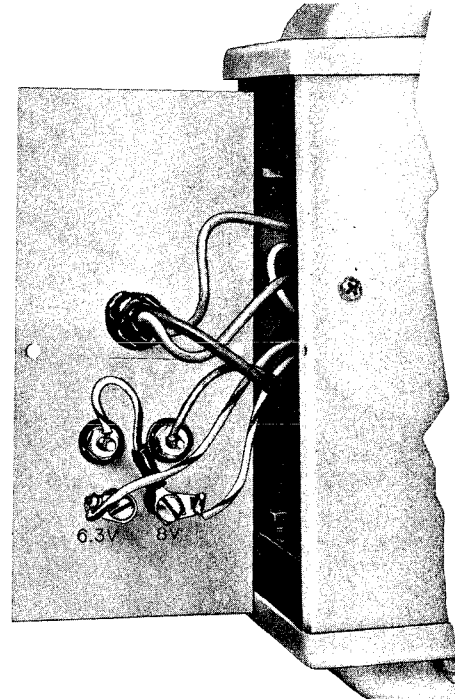

**Fig. 9—KS-16940, List 1 V.R. Transformer**
**9.01** The KS-16940, List 1 V.R. transformer (Fig. 9) is primarily for use as centralized dial light power source to provide regulated power for dial lights and night lights on telephones. It will power 30 dial light telephone sets. This transformer is self-protecting. See Table B for maximum lengths of wiring.